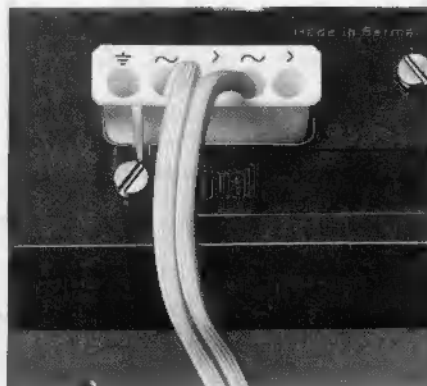

Fig. 2
B. No. 213 982; AMP-No. 160 565/1 (Fig. 2) for 5-pole power supply plug